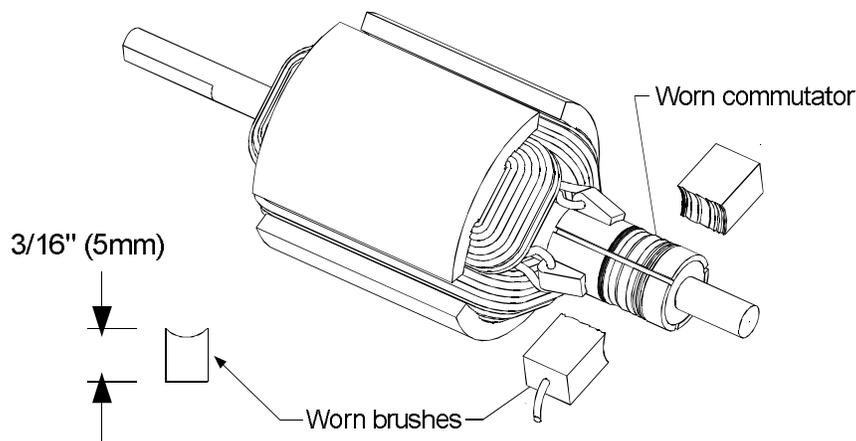

Figure 3-4.
7. If the commutator is worn unevenly as shown in Fig. 3-4, replace the entire armature with a new one. This will significantly increase motor power.